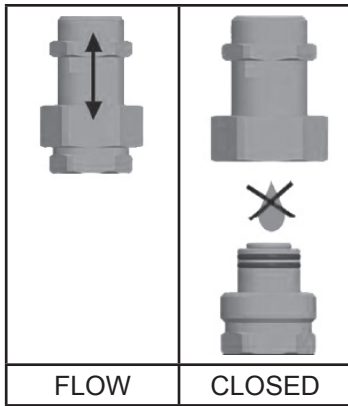

Figure 23.
8. Unscrew the tank connector (Figure 23) to separate the two halves. The top half should be pushed onto the mounting bracket and the lock ring tightened. The bottom half should be attached to the 3/4" threads on the expansion tank. Do not forget to insert the seal.